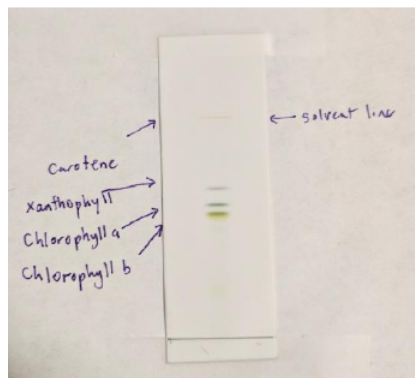

Figure 17.4.4 Separation of compounds in a spinach leaf. (photo credit: Heather Coleman)
**Chromatography** is the separation of a liquid or gas mixture by passing it through a medium in which the components move at different rates. Thin-layer chromatography is perhaps the simplest form of chromatography. It uses a plate--a plastic or glass slide covered on one side with silica (essentially very fine, purified sand), alumina, or some other solid. The plate is placed so that the bottom of it is submerged in a solvent, and the solvent then moves upward on the plate. If a drop of a mixture is placed a little above the level of the solvent, different components of the mixture will be carried upward at different rates depending on how strongly they interact with the silica. Figure 17.4.4 shows separation of the chromophores (colored compounds) in a spinach leaf by thin layer chromatography. The pencil line at the bottom of the plate shows the original position of the mixture before the solvent started traveling up the plate.